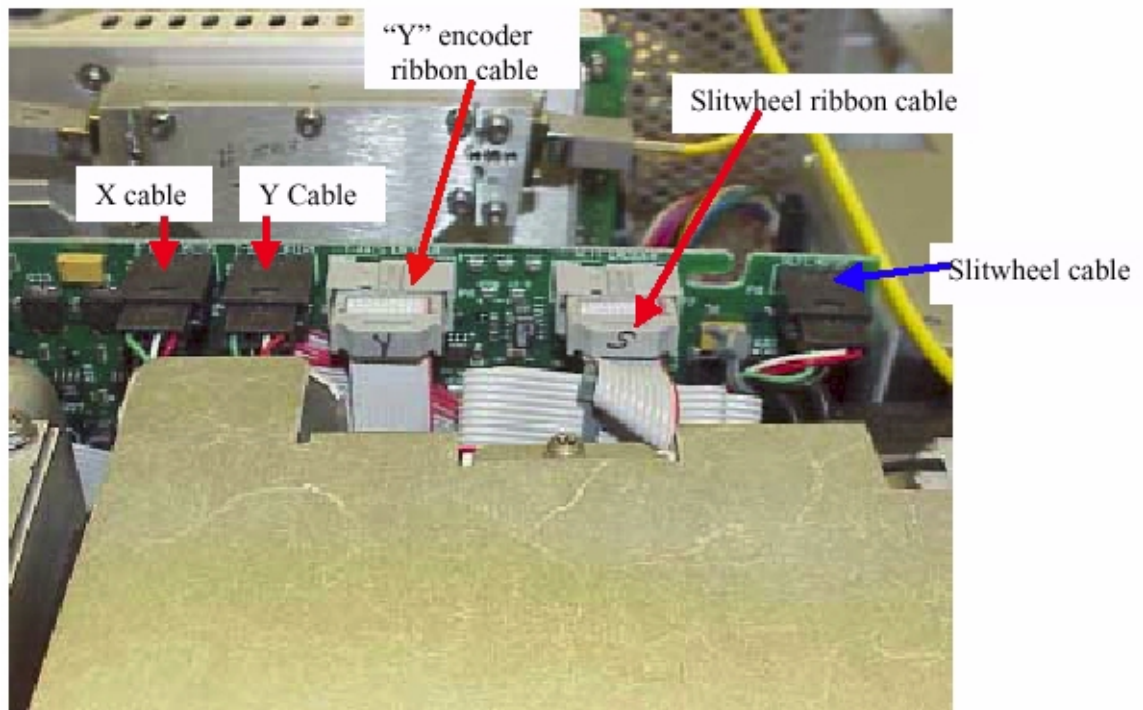

Figure 3-11. Disconnecting the connections on the Servo board
- 4 Remove the X and Y ribbon cables from the X- and Y-axis motor connectors. See Figure 3-11.
- 5 Remove the Y ribbon cable from the Y-axis encoder connector. See Figure 3-11.
- 6 Remove the slitwheel cable from the slip motor connector. See Figure 3-11.
- 7 Remove the slitwheel ribbon cable from the slit encoder connector. See Figure 3-11.